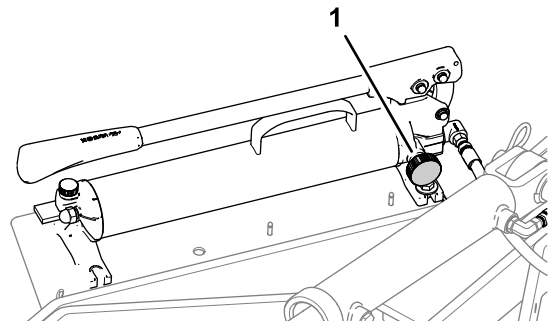

Figure 21
1. Close the valve at the base of the hydraulic hand-pump (Figure 21) and stroke the pump handle until the lock pin rotates in the lock-bar bracket.
6. Close the valve of the hydraulic hand-pump (Figure 21) and stroke the pump handle to raise the aerator to the transport position.